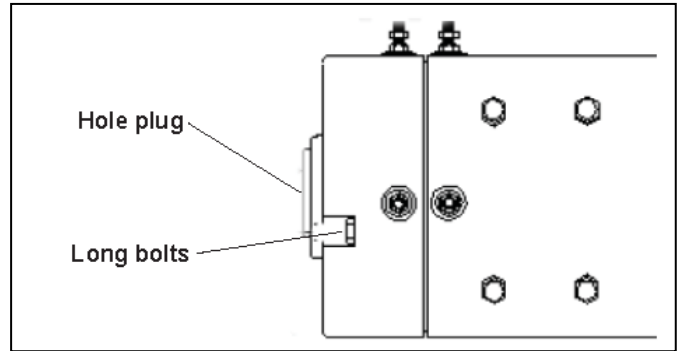

Figure 10-3
1. Remove long bolts. Remove motor head hole plug. See Figure 10-3.